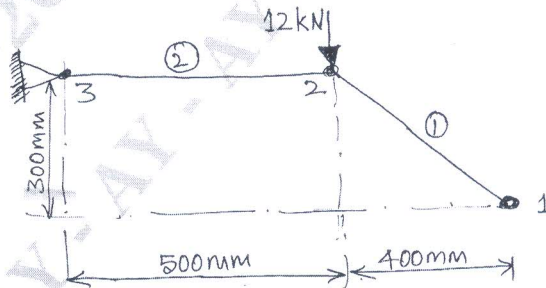

Fig. Q6
- 6 For the two bar truss shown in Fig. Q6, determine the nodal displacement, stresses in each element and reaction at the support. (20 Marks)